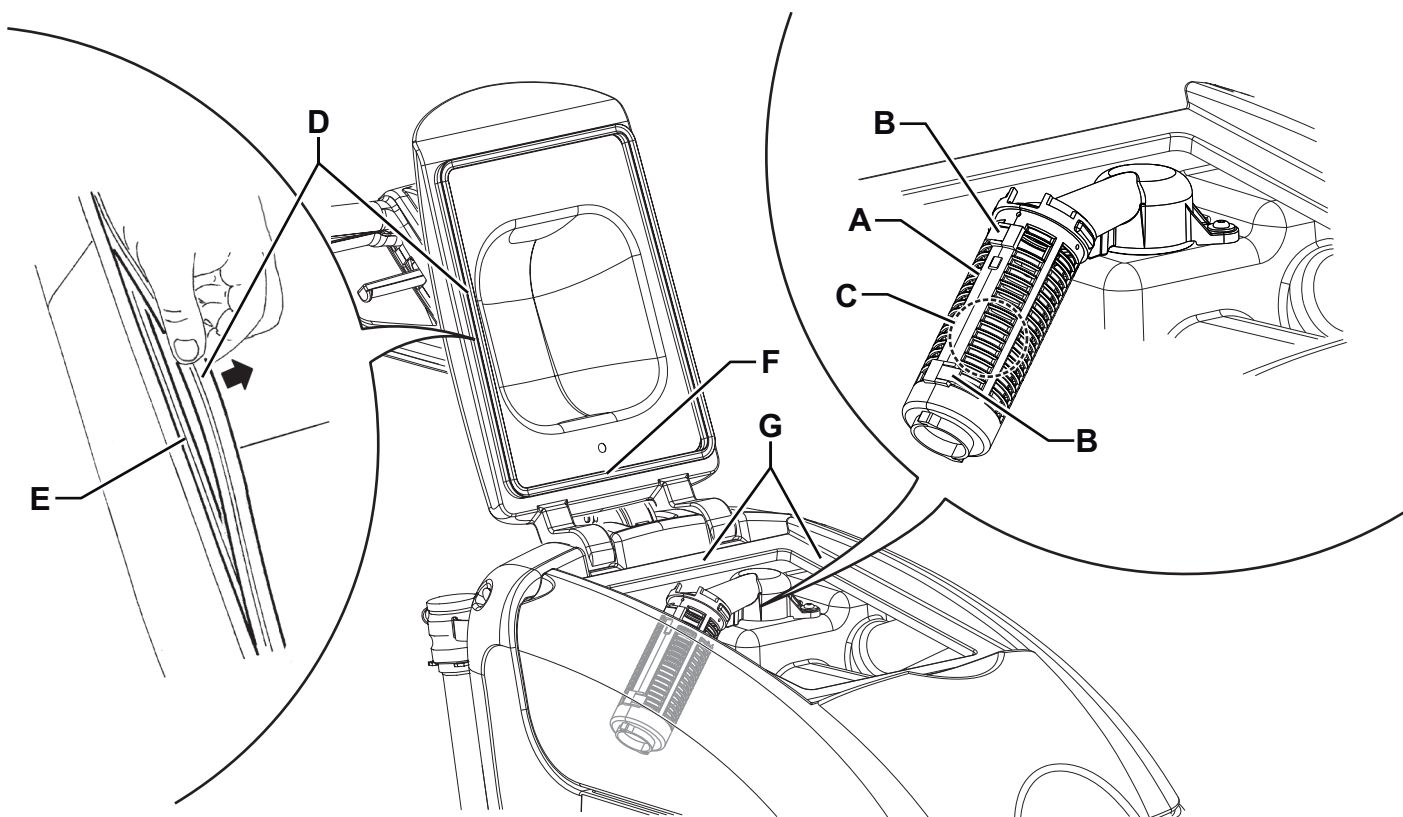

Figure 8
2. Check that the knob (62) is turned to "0".
3. Open the recovery water cover (41), then clean and wash the cover, the tanks (30 and 31) and the vacuum grid (46) with clean water. Drain the water from the tanks with the drain hose (16) and the hose (18).
4. If necessary, release the fasteners (B, Fig. 8) and open the grid (A); recover the float (C), clean all the components and then reinstall them.
5. Check the recovery tank cover gasket (D) for integrity.